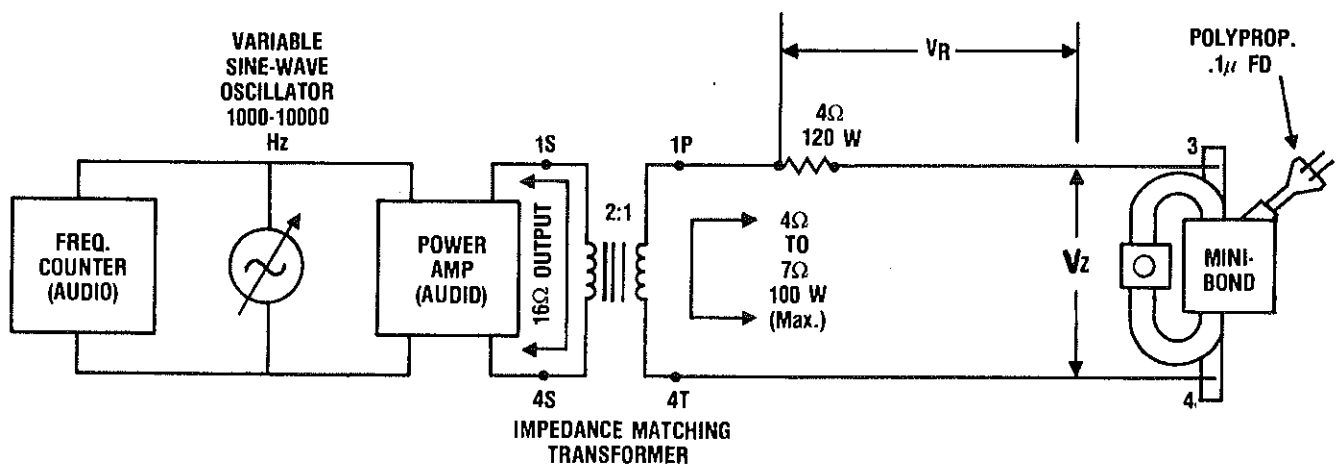

Figure 4-2 Impedance Measuring Test Set-Up
1. Assemble the circuit of Figure 4-2.
2. Measure and record the resistance of the 4 ohm (approx.) resistor (R of Figure 4-2).